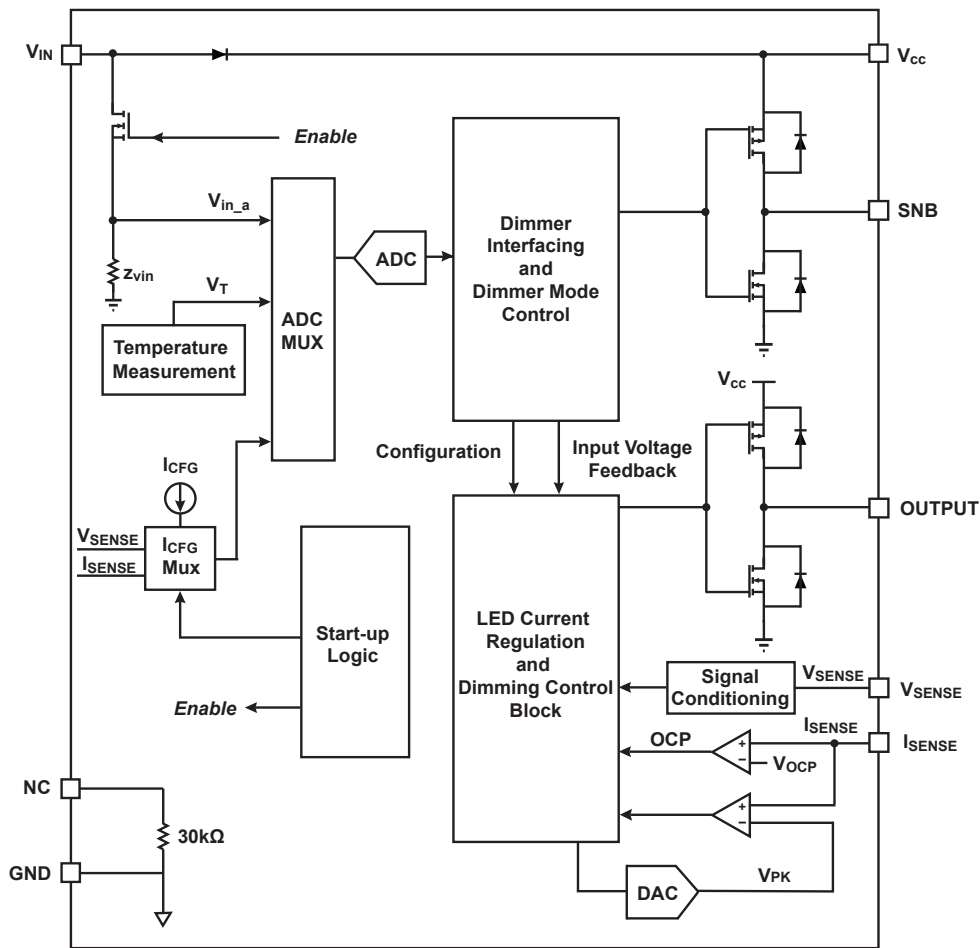

Figure 8.1 : iW3605 Functional Block Diagram
- Note 2. Refer to the voltage level at the V_{IN_a} point in Figure 8.1. The typical impedance between the V_{IN} pin and V_{IN_a} point is 750Ω.
- Note 3. Refer to Z_{VIN} in Figure 8.1.
The dimmer interface and dimmer mode control block (shown in Figure 8.1) analyzes the rectified AC waveform and determines whether a dimmer is connected on the line.